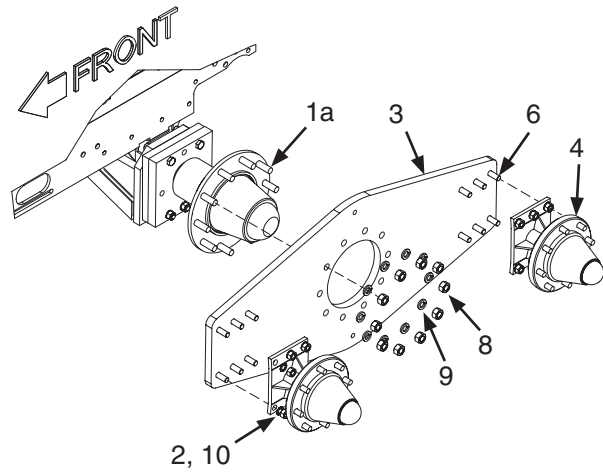

Figure 2-3-4 - Mounting Walking Beam Plate
E. (See Figure 2-3-4) Place (1) Item 3 Walking Beam Plate on the hub. Place (10) Item 9 Lock Washers and Item 8 Nuts on the spindle. Place (12) Item 6 Bolts through the Walking Beam Plate, then place (2) Item 4, Hub & Spindles onto the Walking Beam. Torque all nuts and bolts as per torque chart on page 2-3-1.